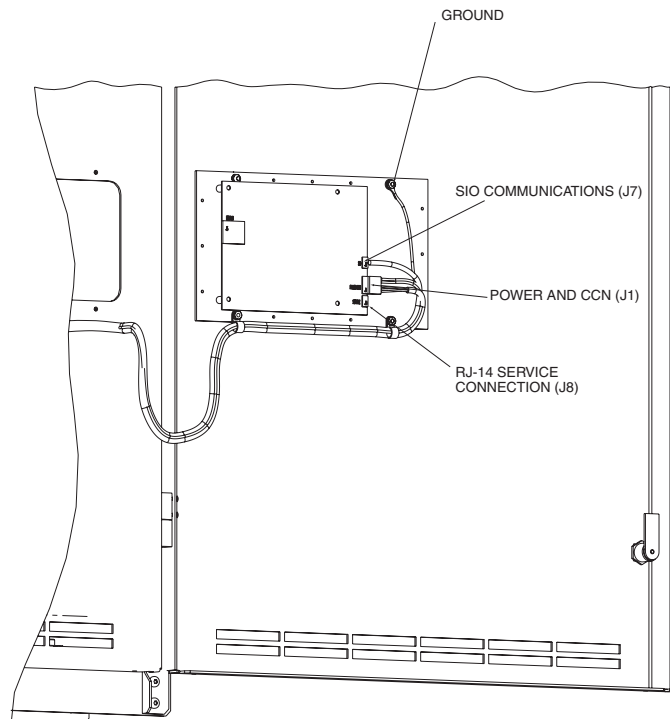

Fig. 49 — Rear of ICVC (International Chiller Visual Controller)
2. If a green LED is on continuously, check the communication wiring. If a green LED is off, check the red LED operation. If the red LED is normal, check the SIO address switches (Fig. 49 and 50). Confirm all SW1 SIO address dip switches on the CCM are in the OFF position.